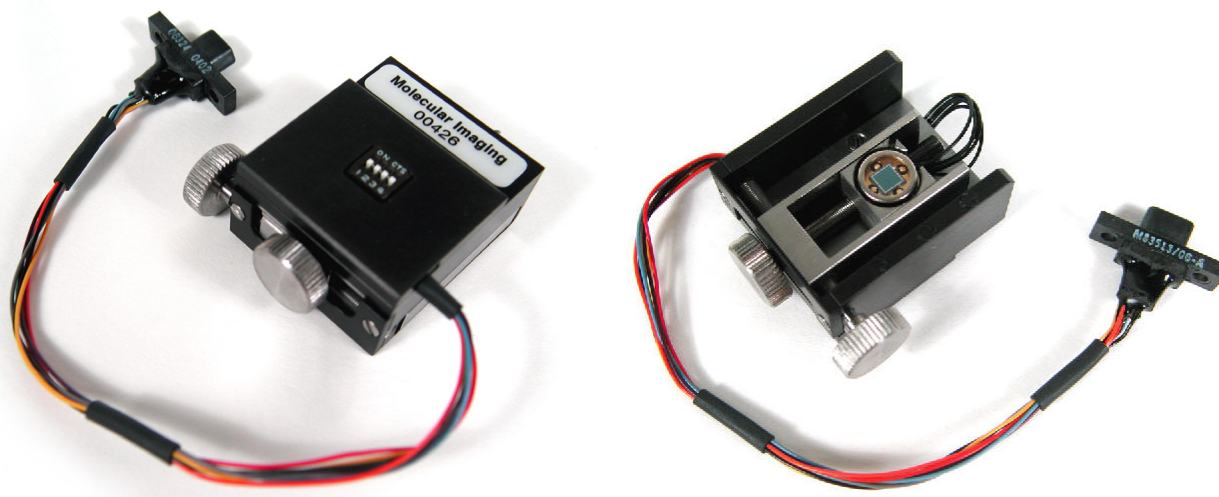

Figure 3.11 (Photodiode detector unit; top view on the left and bottom view on the right. The photodiode chip is visible in the bottom view.)
1. Insert the detector assembly, detector facing down, into the scanner assembly. Before doing so, use the two adjustment knobs on the detector unit to position the detector roughly where the laser spot will be. See Figure 3.11 below.